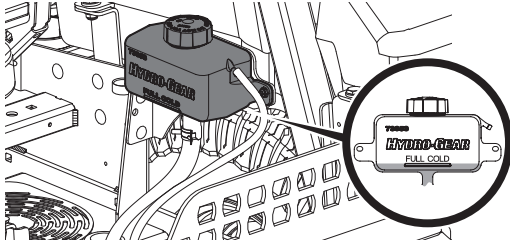

Figure 45
2. Turn the reservoir cap counterclockwise to remove, then check the oil level in the reservoir. Oil should be visible at the bottom of the cup, but the oil level must NOT be above the "FULL COLD" line (Figure 45). DO NOT FILL THE RESERVOIR.